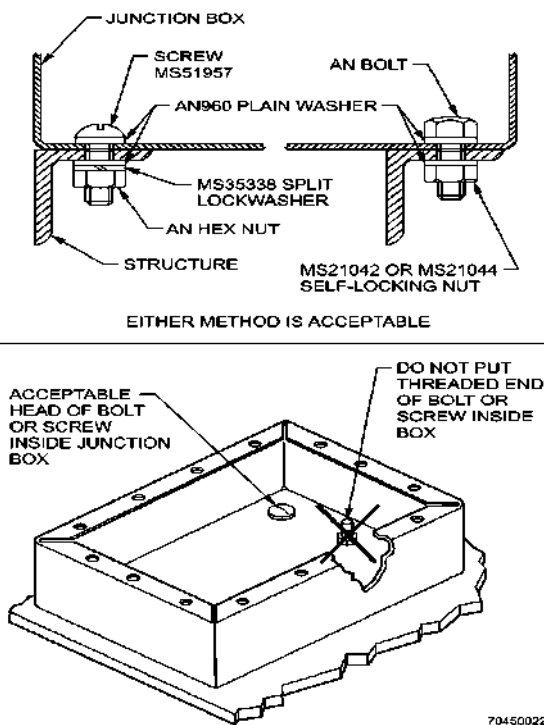

Figure 15-3 Attaching Junction Box to Structure
14. Use standard AN bolts or screws of the appropriate size to attach junction boxes to aircraft structure. (See Figure 15-3.) Insert screws or bolts so that the head of the screw or bolt is inside the junction box. Do not install attaching hardware so that threaded part of the screw or bolt protrudes inside the junction box, as the sharp thread edges will damage wire insulation.